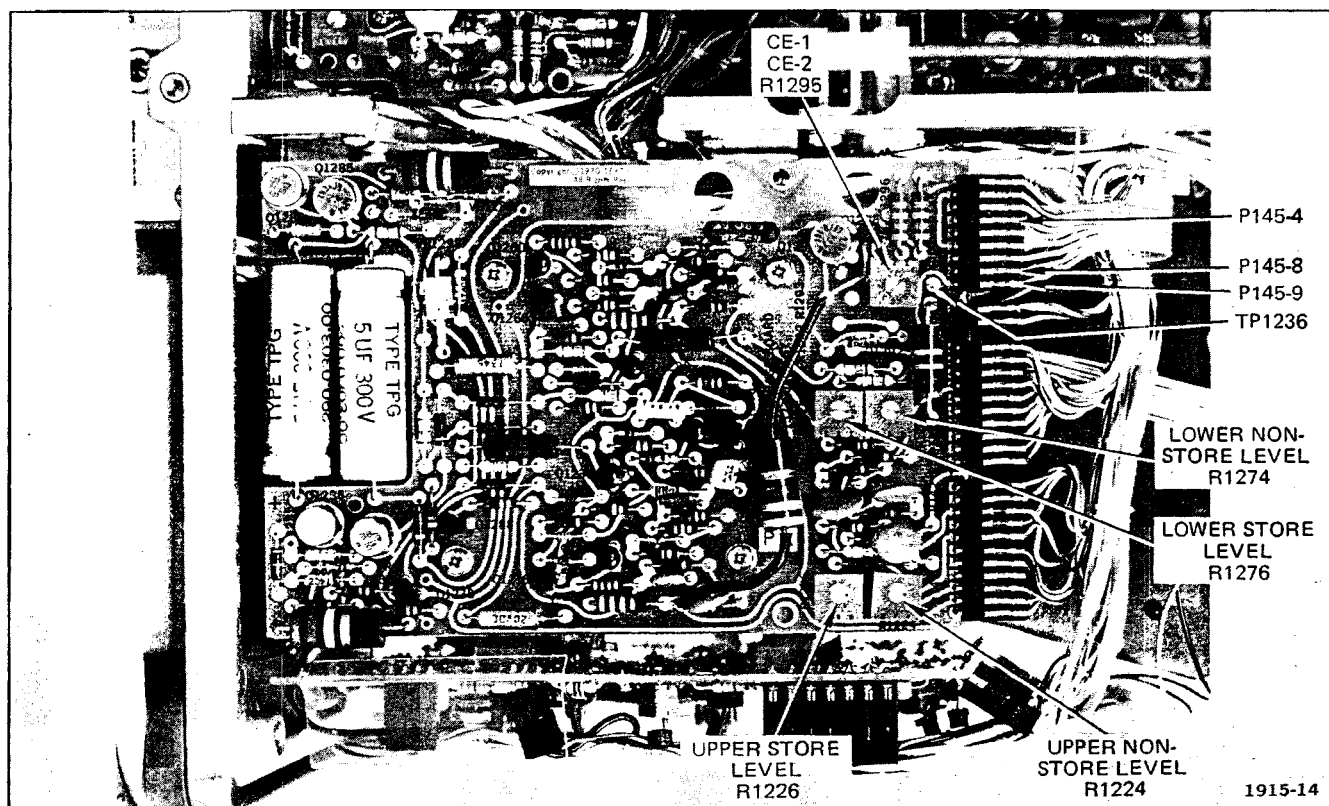

Fig. 5-3. Location of storage circuit adjustments and test points.
b. Connect the minus lead of a DC voltmeter to test point TP1236 and the plus lead of the meter to P145-4. See Fig. 5-3 for test point locations.
c. Adjust R1295 (see Fig. 5-3) for a meter reading of 100 volts.
h. Set the UPPER SCREEN STORE button to non-store (button out) position and move the plus lead of the meter to P145-9 (see Fig. 5-3).
d. Connect the plus lead of the DC voltmeter to P145-8 (see Fig. 5-3).